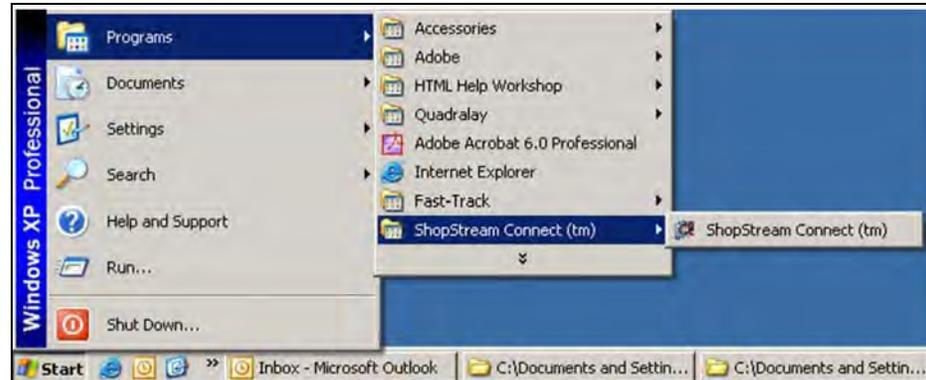

Figure 2-12 Sample Start menu selection
- Select **Start > Programs > ShopStream Connect > ShopStream Connect** (Figure 2-12).